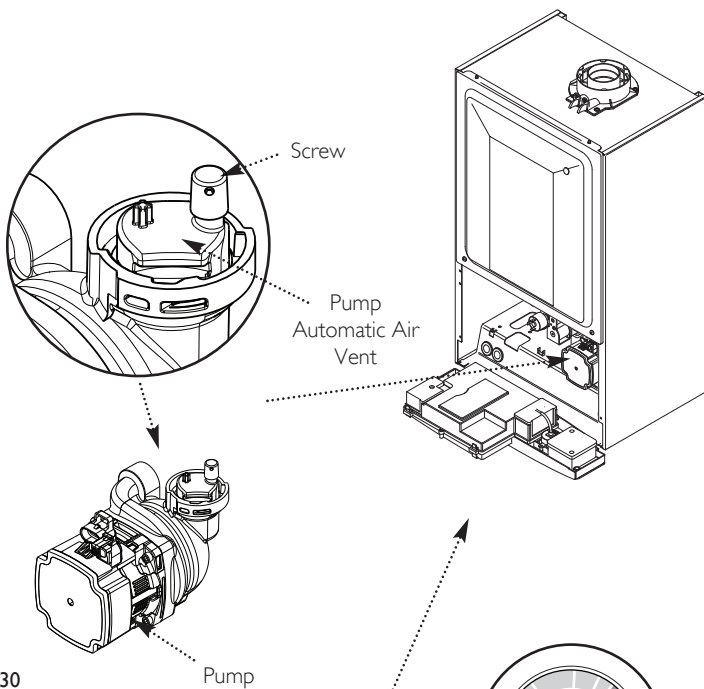

Fig. 30
4. Open the screw on the automatic air vent on the pump body (Fig. 30).